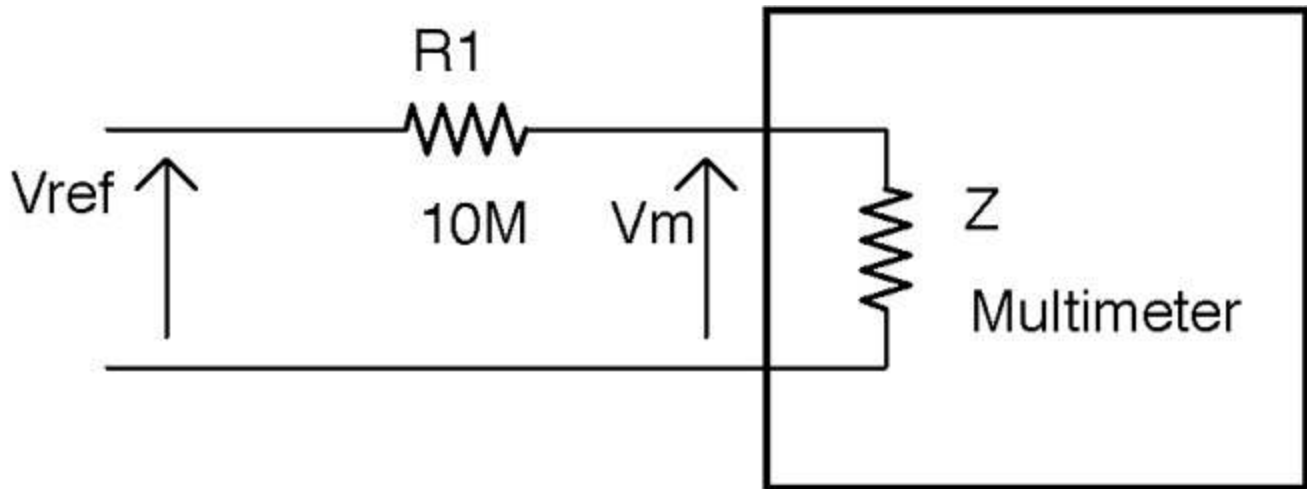

Figure 21-7. Finding the Input Impedance of Your Multimeter
You can determine the input impedance of your multimeter using the schematic in Figure 21-7.
To determine the input impedance of your multimeter (Z in Figure 21-7):
2. Now place a resistor in series with the positive multimeter leads as shown in Figure 21-7 and see what voltage the meter reads now (V_m). If there is little or no change in the reading, then try a higher-value resistor (say $100M\Omega$) and congratulations you have a high-quality multimeter.
3. Calculate the impedance of the meter (Z) using the formula: